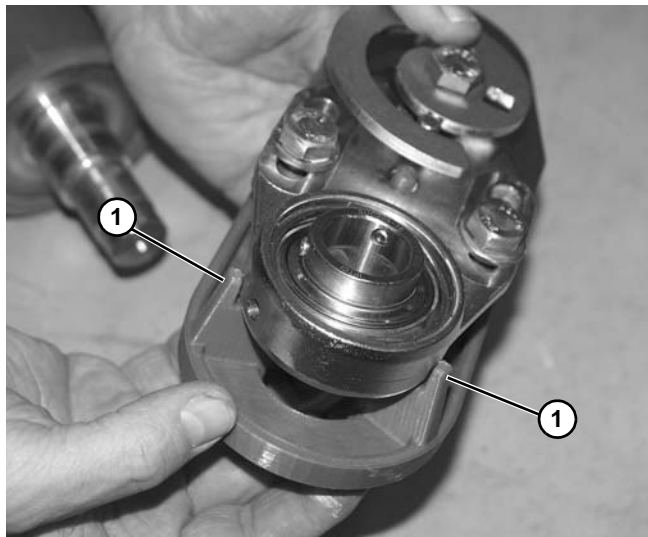

Figure 137
When installing headplate back into side plate, make certain that headplate is fully seated into notches (**Figure 137, item 1**) as shown.